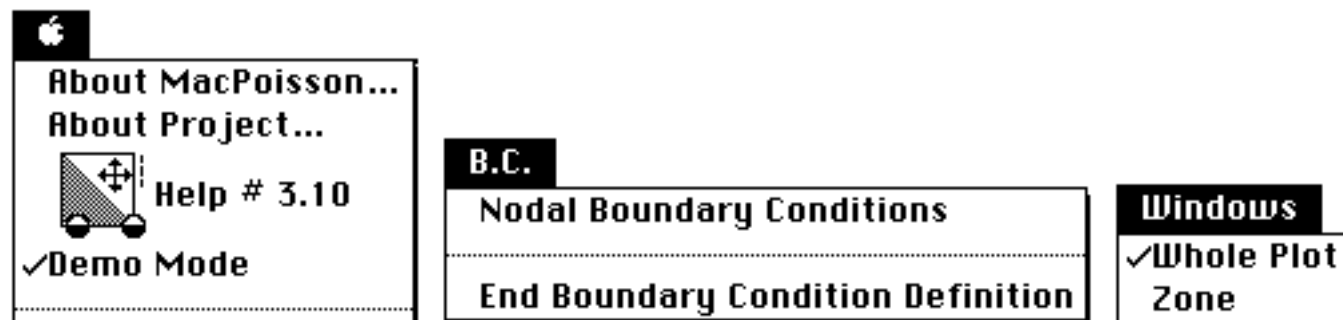

Fig 3.49 Boundary conditions menu
The  menu (Fig 3.49) contains previously described commands; see the Geometry module. The help number, of course, has changed.
- Select End Boundary Condition Definition from the B.C. menu (Fig 3.49).